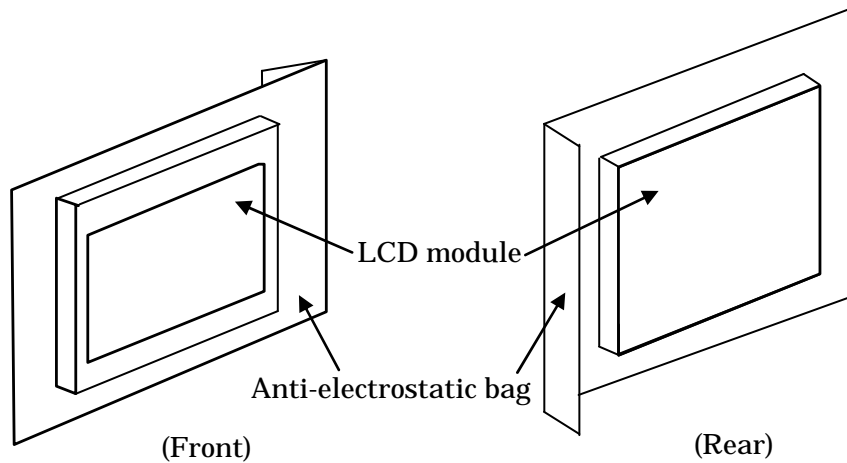

Fig 6
- (1) Each of LCD modules is packed in anti-electrostatic bag. (Fig.6)